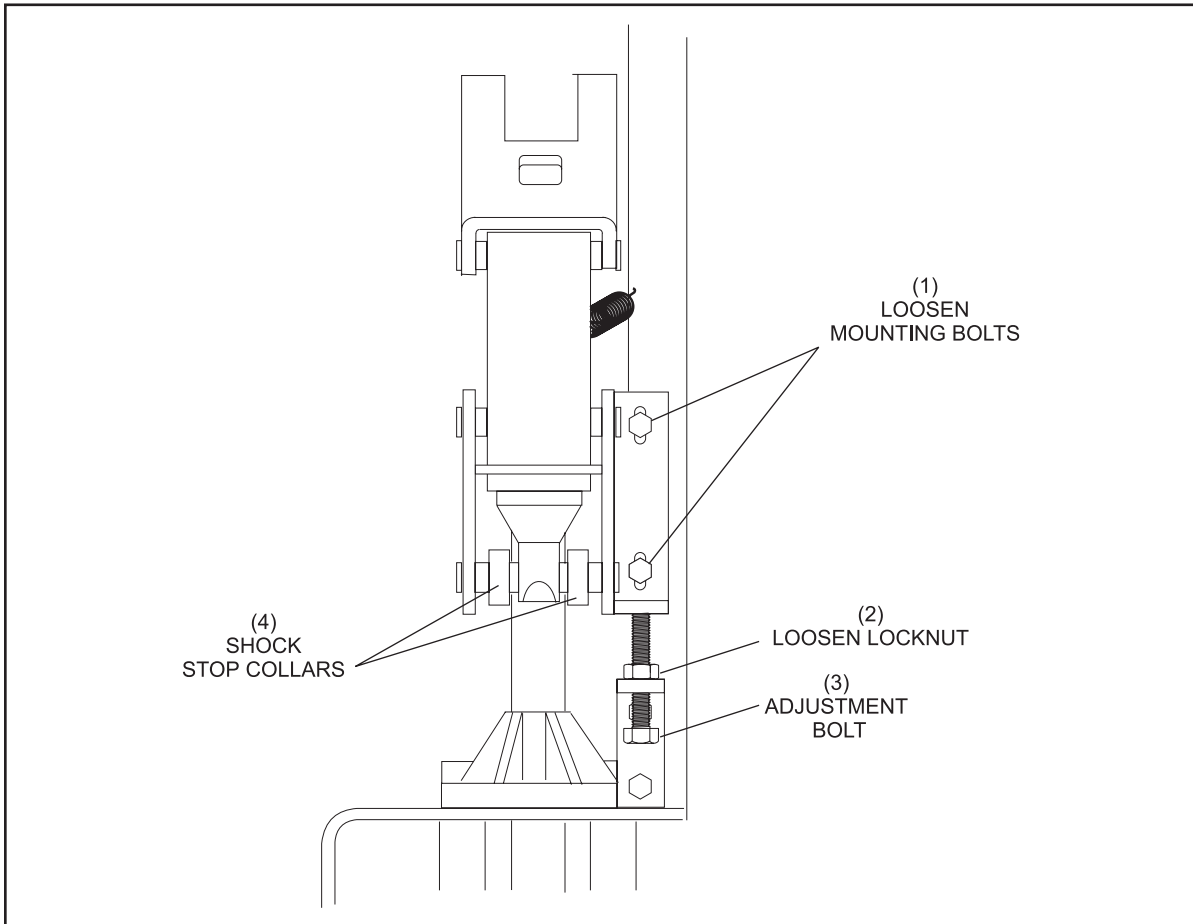

Figure 5-42. Adjusting Stroke Limiter Mounting Bracket
(1) PIN HOLDER
(2) DETECTOR PLATE
4. If an adjustment is required, raise the table off the stroke limiter. Loosen the locknuts on the stroke limiter mounting bracket's vertical bolt and loosen the two mounting bolts illustrated in *Figure 5-42*. Lower or raise the stroke limiter as needed. Repeat steps 1 - 4 until the 3 - 5 mm clearance is obtained.